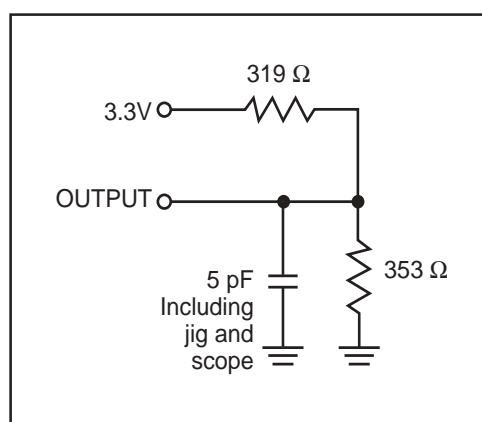

Figure 2
2. Tested with the load in Figure 2. Transition is measured ±200 mV from steady-state voltage. Not 100% tested.
3. Tested with the load in Figure 2. Transition is measured ± 500 mV from steady-state voltage. Not 100% tested.